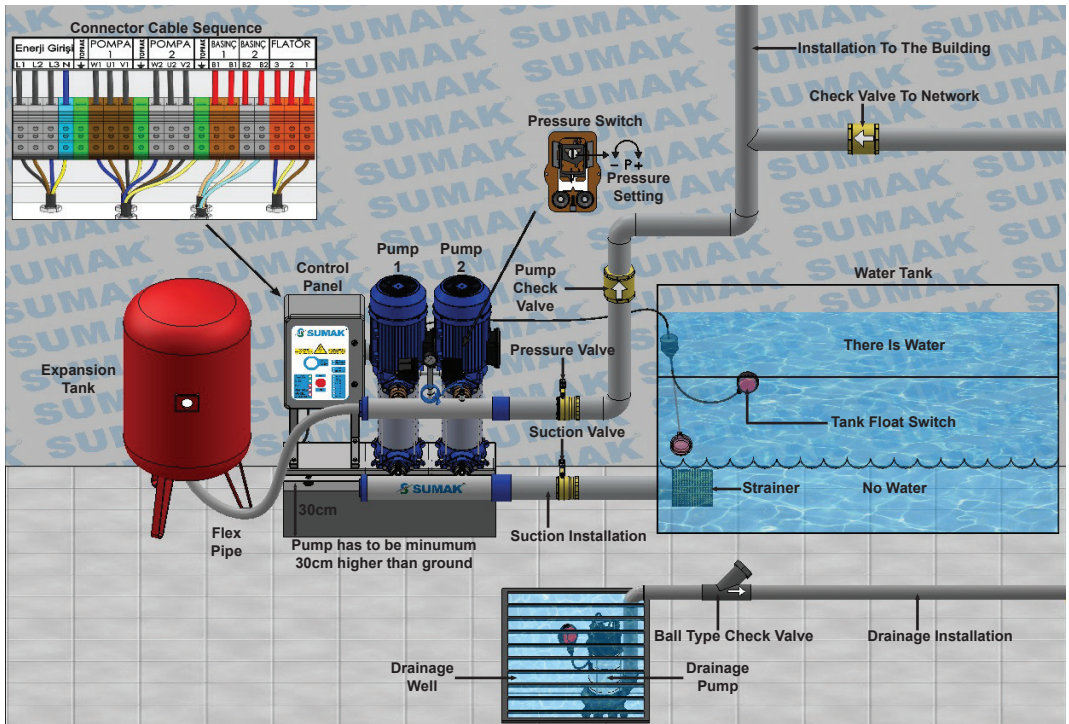

Figure 1
- 7- Assemble the pump according to Figure 1 on Page 7.
- 29- Please check Figure 1 in Page 7 for usage of pump assembly information while mounting, Figure 3 in Page 15 for electric connection, Figure 4 in Page 44 for life security warnings.